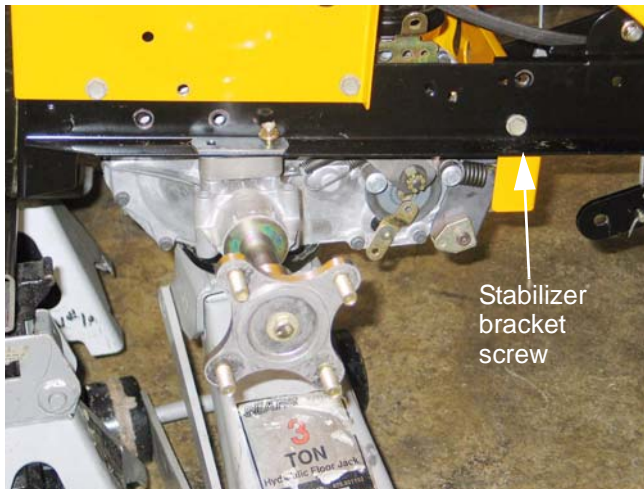

Figure 29.21
29.21. Remove the two screws that connect the stabilizer bracket to the frame using a 1/2" wrench. See Figure 29.21.